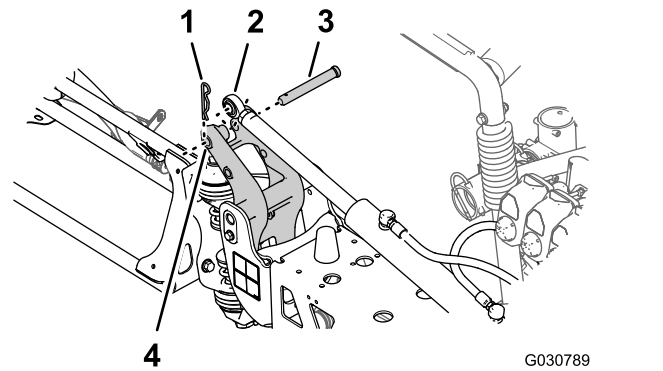

Figure 123
6. Align the rod end of the lift cylinder with the hole 25 mm (1 inch) in the horn of the pivot fitting (Figure 123).
7. Secure the lift cylinder to the pivot fitting with the clevis pin and hairpin (Figure 123) that you removed in step 2 of Removing the Lift Cylinders (page 23).